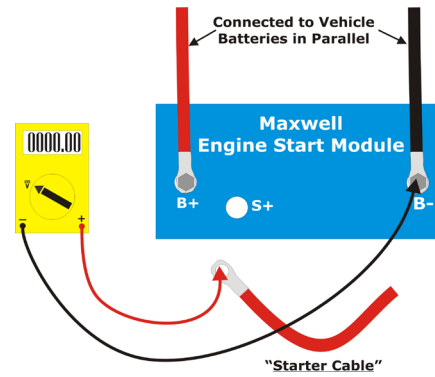

Figure 5
3. Perform the same test with the multimeter's black (-) lead connected to the B- terminal on the ESM. The voltage should read less than 0.1 volts DC (see Figure 5).